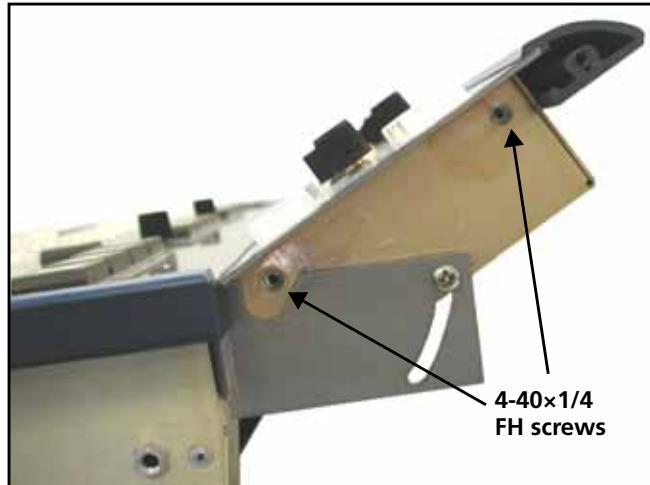

Figure 2-12 Audio Control Panel Side Screws
- d Replace the two screws on each side of the audio control panel with 4-40x1/4 FH screws (see Figure 2-12).